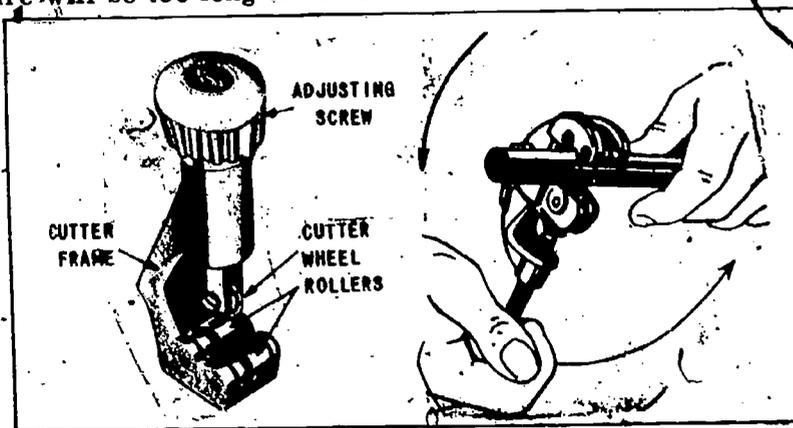
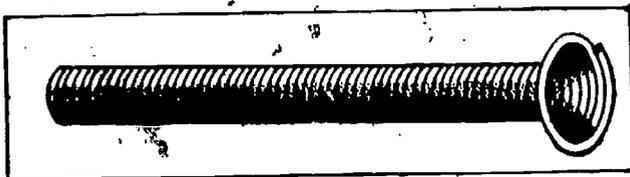
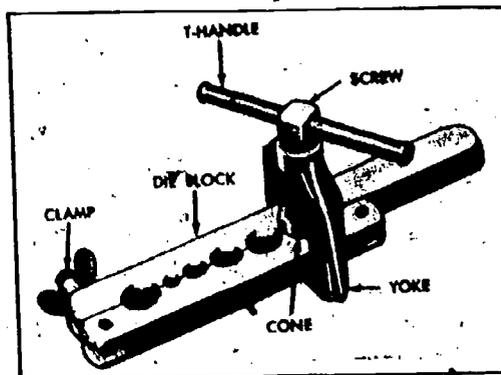

Fig 1-11. Tubing cutter and use.
Fig 1-12. Coil wire tube bender.
Fig 1-13. Flaring tool.
- (1) Hose. With bulk hose and reusable fittings, you can replace or repair most lines on engineer equipment. Although there are some special tools, they are not discussed in this course because you can do the same job with a pocket knife and your general mechanic's tools. The hose is made in several sizes and can be used for low-, medium-, and high-pressure lines: It can be used to replace or splice metal lines. Flexible hose helps overcome vibration damages, but it is easily cut and chafed.
- (2) Tubing tools. Tube cutters, benders, and flaring tools are used to repair or fabricate metal low-pressure fuel and oil lines. The cutter has two rollers and a cutter wheel mounted in a lightweight frame (fig 1-11). The cutter wheel is attached to an adjusting screw. Tubing is cut by placing it between the cutter wheel and rollers and adjusting the cutter wheel to cause a slight pressure on the tubing. (Too much pressure will crush the tubing.) The tool is rotated toward the open side and the cutter adjusted to maintain a slight pressure. Some cutting tool rollers have slots which make it possible to cut off only the flared portion of a line. Although tubing can be cut with other tools, the cutting tool helps obtain a square cut more quickly with less waste. Bending and shaping of the line is done after it is cut. All metal lines should have some bends to help absorb the vibrations and allow for expansion and contraction. To prevent kinking the tubing, a tubing bender similar to the one illustrated in figure 1-12 should be used. After the tubing has been shaped and the fittings installed, lines requiring flares can be finished with the flaring tool (fig 1-13). The tubing must be installed in the die block straight or the flare will be offset. It must extend through the die block the proper distance or the flare will be too long or too short.